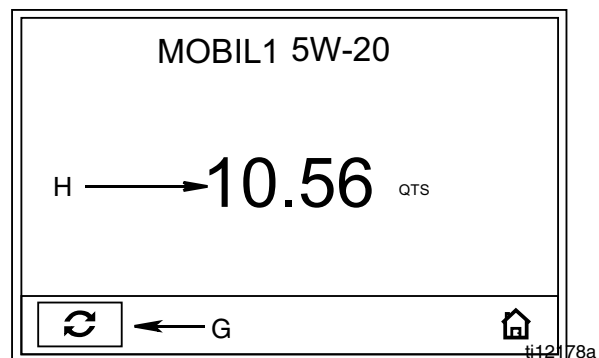

FIG. 21
2. Press center, ENTER button to confirm selection. The Manual Dispense screen (FIG. 21) appears.
*Fluid flows. The amount displayed counts up from zero or from the previously dispensed amount (FIG. 21) and displays in field H.*
5. Use LEFT or RIGHT ARROW to move cursor to RESET button (G). Press center ENTER button to reset the displayed amount in field H to zero.